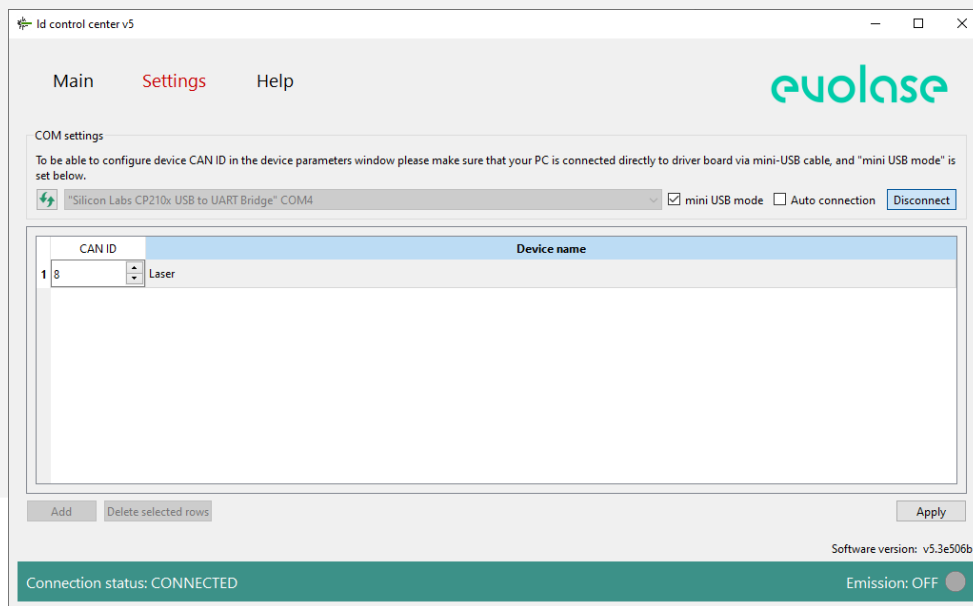

Figure 1: The system configuration menu
5. Click “Settings” to enter the program configuration menu (fig.1).